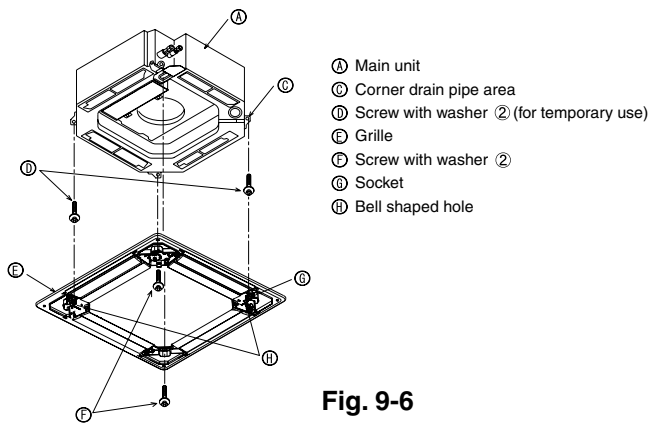
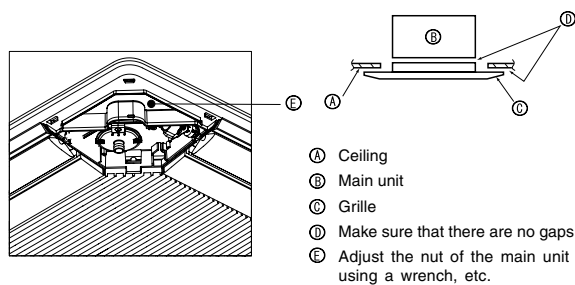

Fig. 9-6
Fig. 9-7
9.4.2. Temporary installation of the grille (Fig. 9-6)
- Temporarily secure the grille using the bell shaped holes by putting the socket of the grille marked ③ on the corner drain pipe area of the main unit.
9.4.3. Securing the grille (Fig. 9-7)